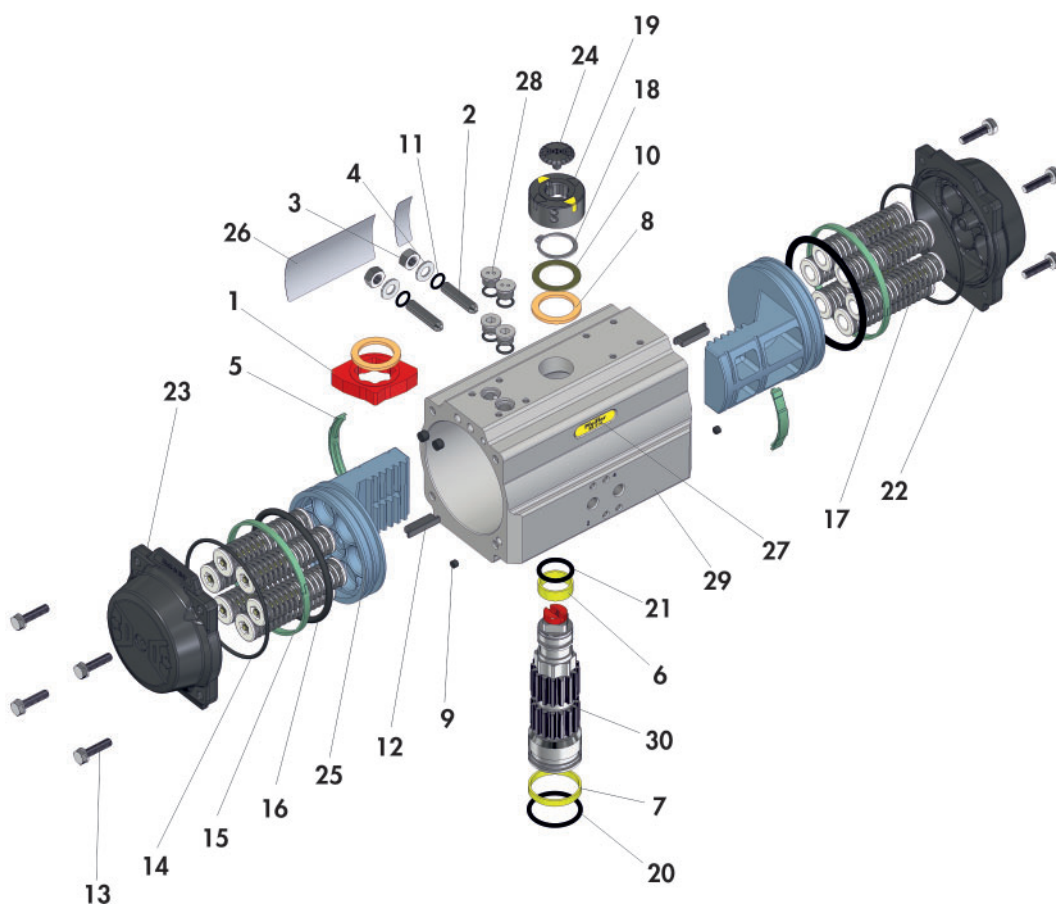
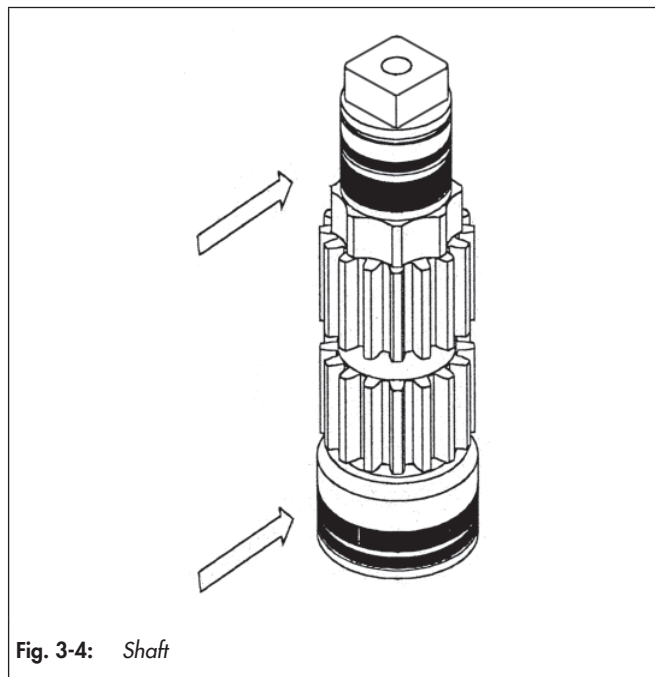
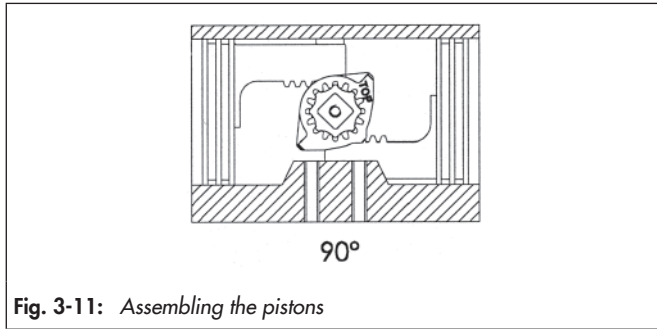
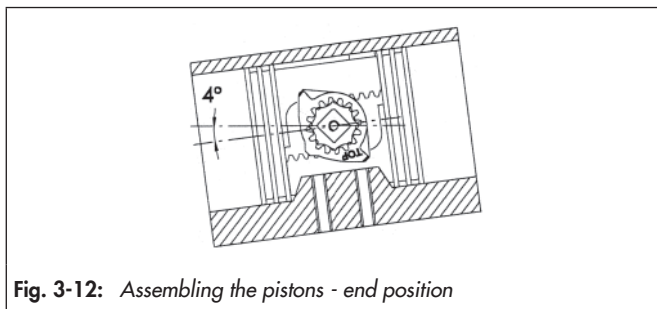

Fig. 3-3: Exploded drawing of the rotary actuator version Edition 2020+
Fig. 3-4: Shaft
Fig. 3-11: Assembling the pistons
Fig. 3-12: Assembling the pistons - end position
(see Fig. 3-3, Fig. 3-4, Fig. 3-5 and Fig. 3-6)
- ⇒ Grease the outside of the shaft surface at the top and bottom, see Fig. 3-4.
(see Fig. 3-3 and Fig. 3-7)
(see Fig. 3-3, Fig. 3-8, Fig. 3-9, Fig. 3-10, Fig. 3-11 and Fig. 3-12)
or counterclockwise until the travel end is reached, see Fig. 3-10 and Fig. 3-11.
⇒ Check that the pistons in the end position turn the shaft 4° over the middle line (0°), see Fig. 3-12.